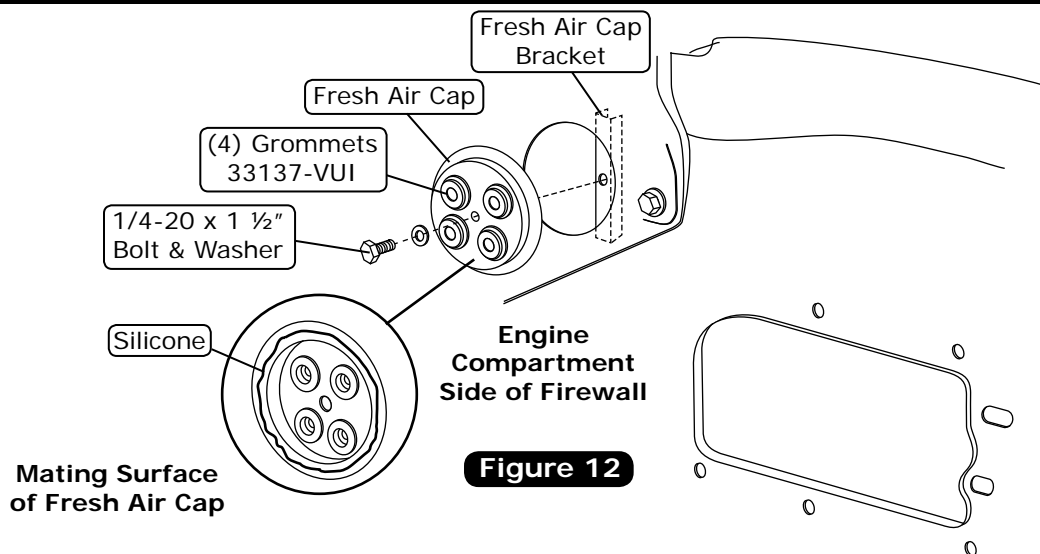

Figure 12
1. Install (4) grommets into the fresh air cap (See Figure 12, below).
2. Apply a 1/4" bead of silicone around the mating surface of the fresh air cap as shown in Figure 12, below.
3. Attach the fresh air cap to the firewall using the fresh air cap bracket, a 1/4-20 x 1 1/2" bolt, and a washer as shown in Figure 12, below. **NOTE: The fresh air cap installs on the engine side of the firewall.**